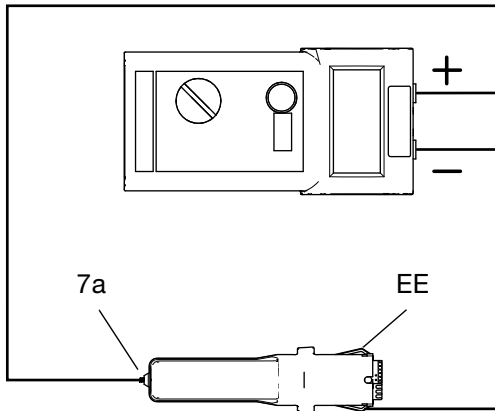

FIG. 19. Test Power Supply Resistance
1. Remove the power supply (7), **page 47**.
2. Remove the turbine alternator (8) from the power supply, **page 48**.
3. Measure resistance from the power supply's ground strips (EE) to the spring (7a). See FIGURE 19.